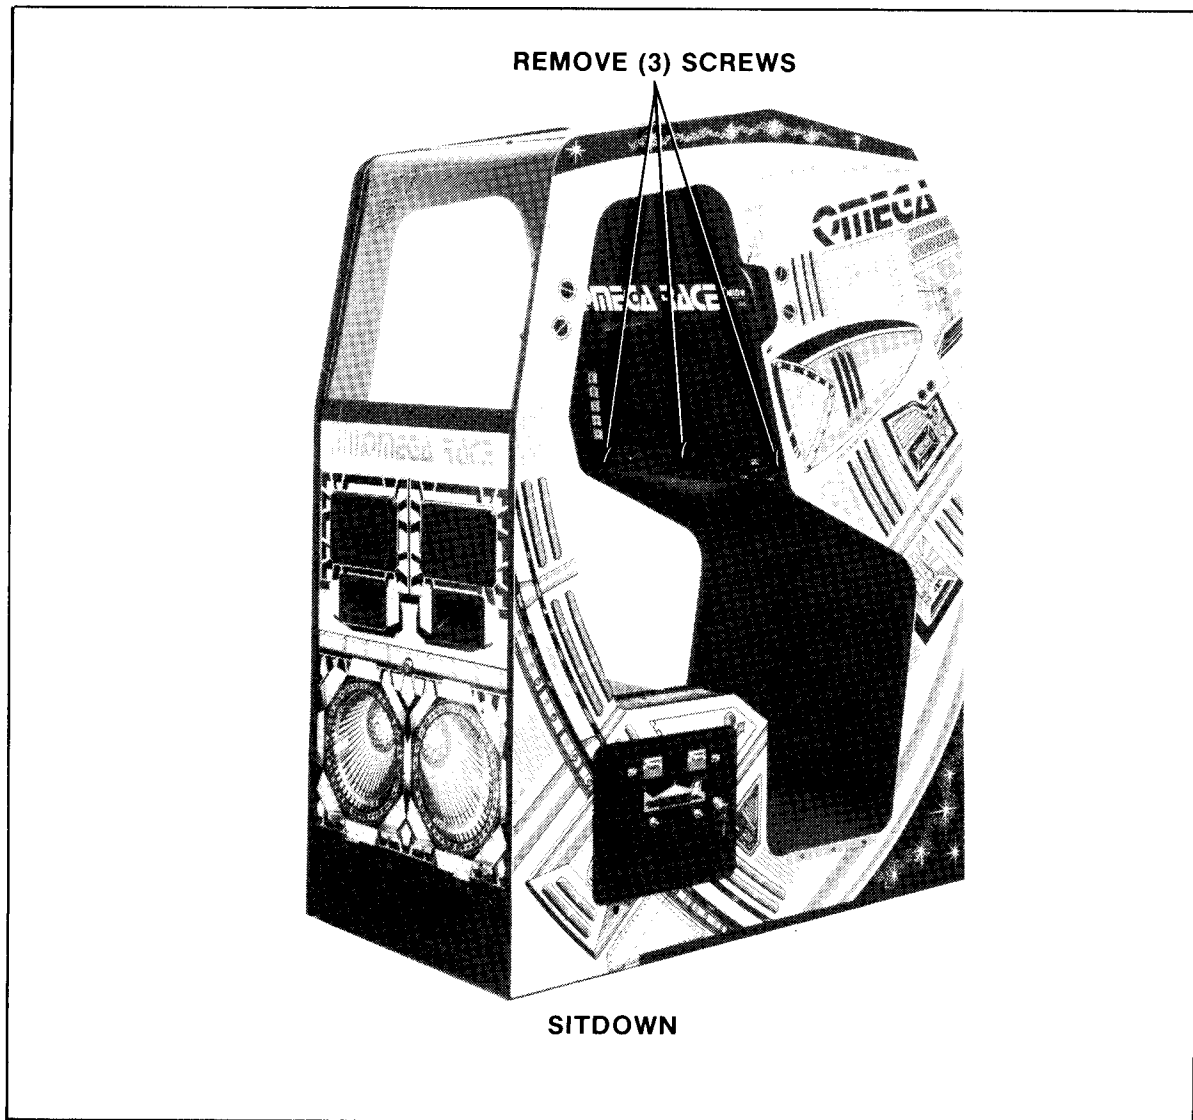

FIGURE 21
- d. To remove the control panel at the bottom of the screen: (See Figure 21.)